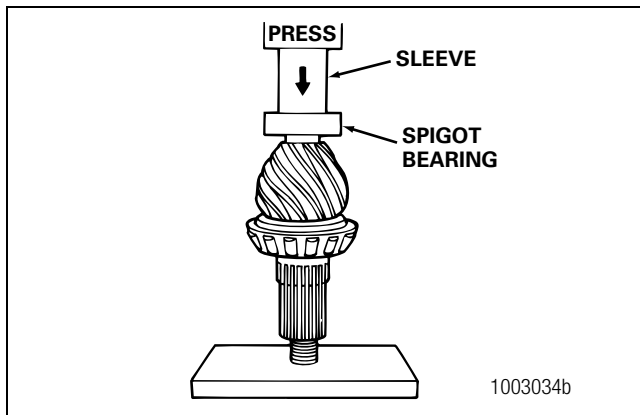

Figure 5.3
1. Place the drive pinion in a press with the gear head or the teeth toward the top. Figure 5.3.
2. Press the spigot bearing on the end of the drive pinion. The bearing must be flat against the gear head. Use a sleeve of the correct size against the bearing inner race. Figure 5.3.